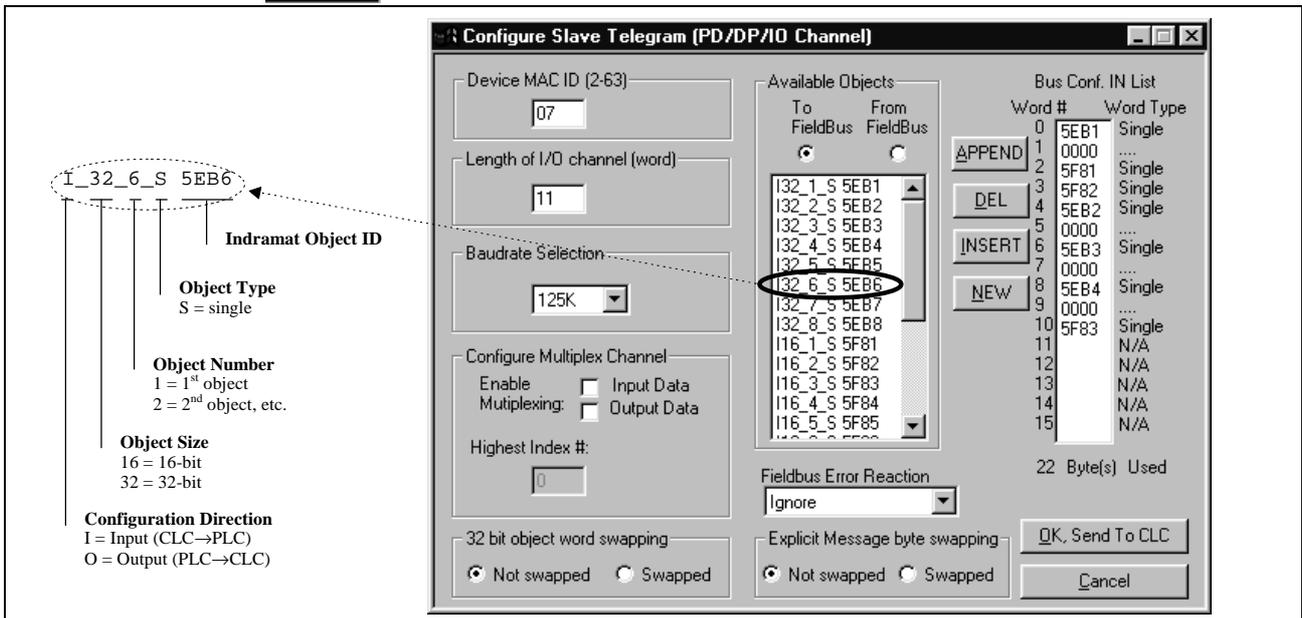

Figure 2-4: Configuring the DeviceNet Configuration IN List
- For each data type desired, choose a corresponding available object in the list on the left and click "APPEND" to place it in the "Bus Conf. IN List." If you are configuring a new list, click on the "NEW" button to clear any current data in the selected list. Each available object has a typecode to identify its size and type. **Figure 2-4: Configuring the DeviceNet Configuration IN List** contains a description of the typecode.